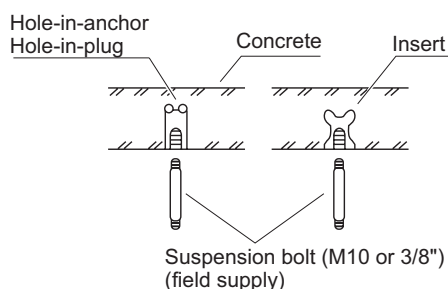

Fig. 2-148
- Insert suspension bolts as shown in Fig. 2-148
- (2) Screw in the suspension bolts allowing them to protrude from the ceiling as shown in Fig. 2-148. (Cut the ceiling material, if necessary.)